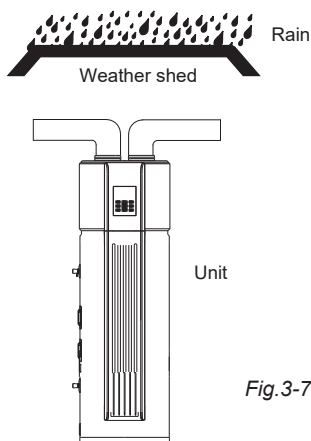

Fig.3-7
- In terms of the unit connect with duct reaching to outdoor, a reliable water-resistant measure must be conducted on the duct, to prevent water from dropping into internal of the unit. (Fig.3-7)